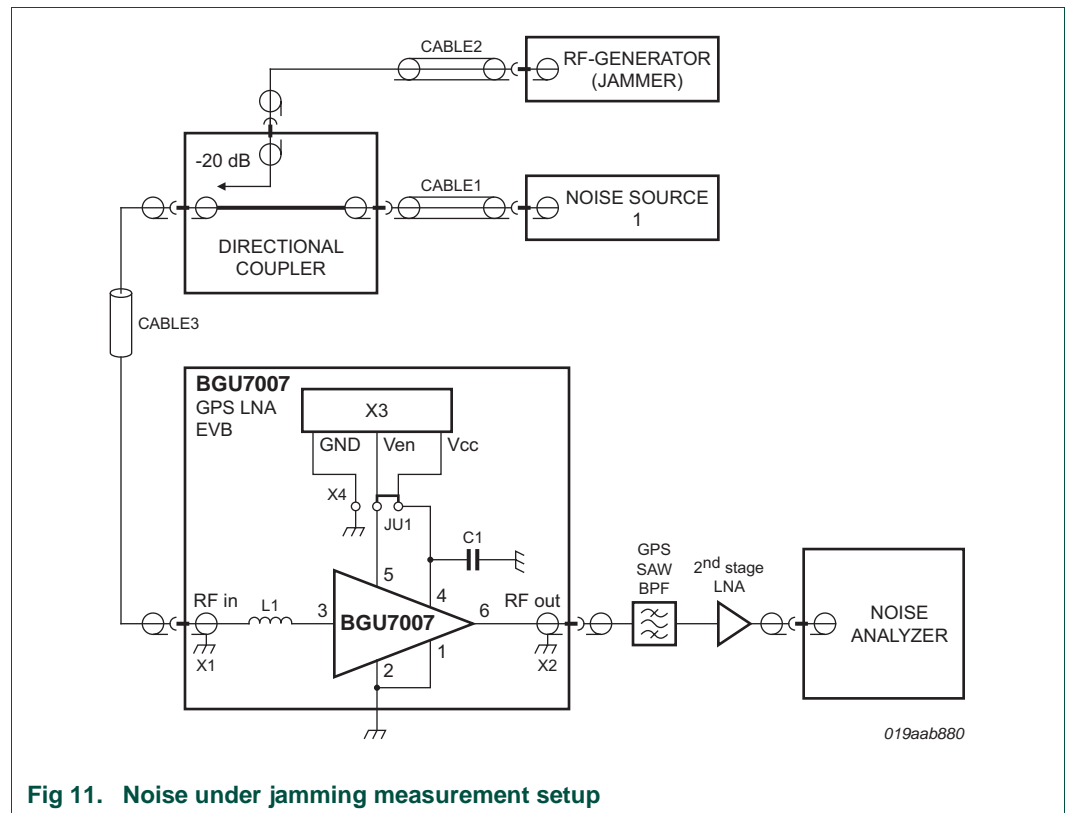

Fig 11. Noise under jamming measurement setup
9. For noise under jamming conditions, the following is needed. A 15 dB ENR noise source, a directional coupler, GPS band pass filter, a noise-figure analyzer or a spectrum analyzer with noise option can be used. See Fig 11.
Noise figure under jamming conditions is a measure of how the LNA behaves when e.g. a GSM TX interfering signal is at the input of the GPS antenna. To measure this behavior the setup shown in Fig 11 is used.